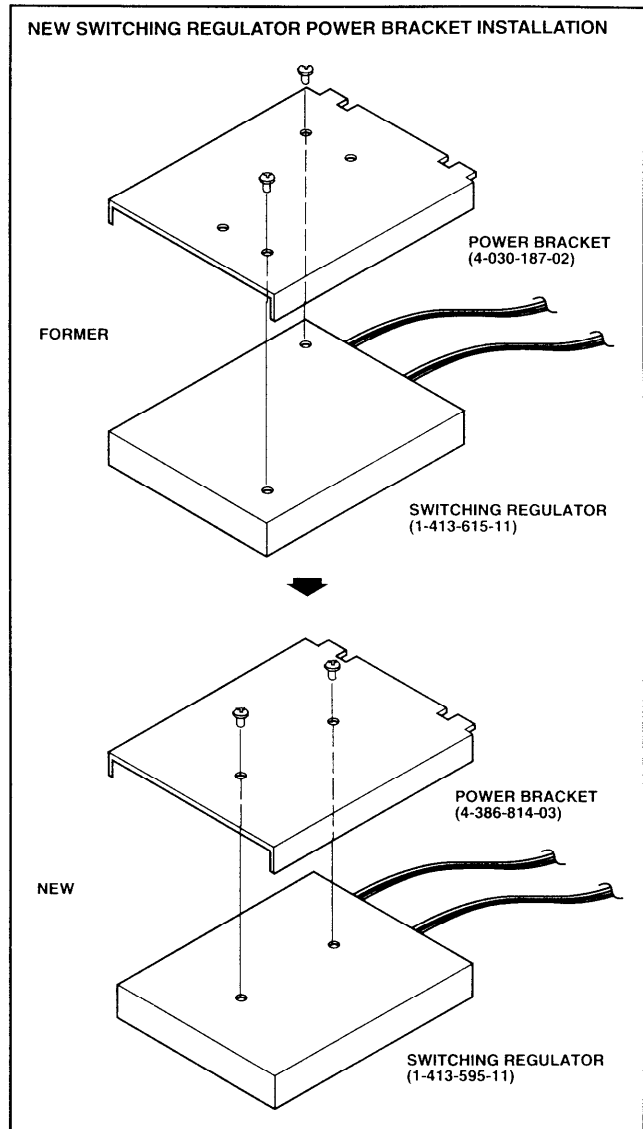

Figure 4
6. Connect the blue wire to terminal (L).
7. Connect the yellow wire to terminal (N).
13. Use the two screws set aside in step 4 to attach the new power bracket to the switching regulator as shown in Figure 4.